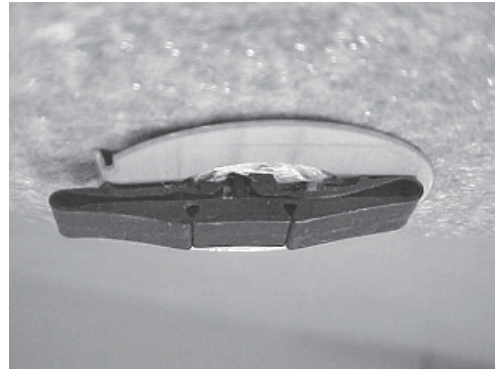

FIGURE 2
- 6) Using a pair of pliers with its jaws protected, compress the collapsible portion of the floor mat hook ensuring that the lock is engaged. (See figure 2 below.)
Disconnect one stay (refer to the applicable service manual) at a time. Be sure to zero the needle or gauge on your measuring device before proceeding with any testing. Using the brake pedal effort gauge, measure the load by placing the gauge at the lower edge of the rear gate (see Figure 2). Push up on the rear gate using the gauge and stop when the gate edge is parallel (horizontal) with the rear gate hinge. Record your measurement (see figure 2). Compare your measurements with the ones on the following chart to determine if replacement is necessary. If the measurement is within specification, reinstall the removed stay and remove the opposite one.